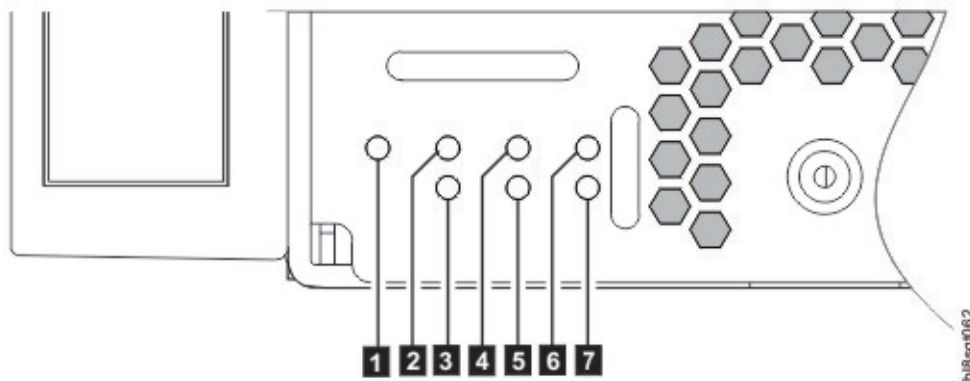

Figure 12. Front panel – lower left corner (partial view)
The enclosure front panel provides access to the seven (7) main enclosure system LEDs, located in the lower left corner. See also Figure 12 on page 14. The front panel also provides access to the left and right enclosure pull handles used to slide the enclosure forward for in-rack servicing tasks.